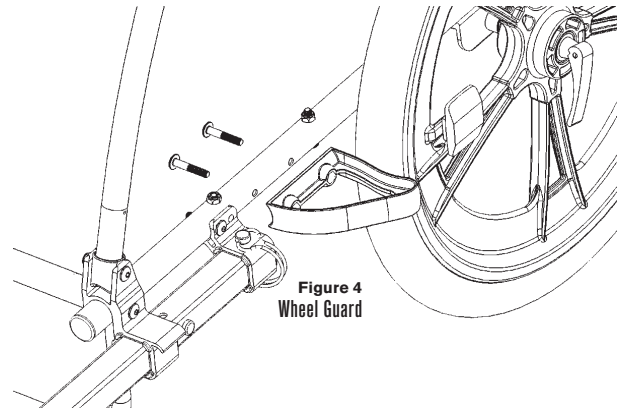

Figure 4
Match holes in wheel guards with holes on outside of lower side frames. Install guards using (2) M6 x 35mm screws inserted from inside the frame. Tighten securely. **Figure 4**